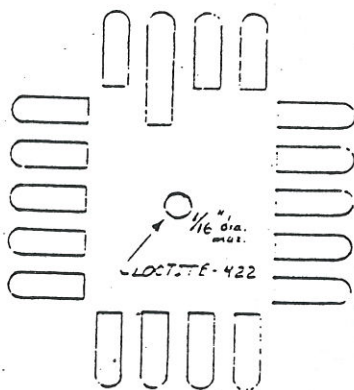

FIG. M-3
STEP 1. AFTER MAKING SURE THAT CHIP PAD AREA IS FREE FROM FLUX AND LOCTITE-422 RESIDUE, USE A SHARP TOOTHPICK AND PLACE A VERY SMALL AMOUNT OF FRESH LOCTITE-422 IN THE CENTER OF THE CHIP PAD AREA. THE SIZE OF THE DROP OF GLUE SHOULD BE NO GREATER THAN 1/16 IN. IN DIAMETER. REFER TO FIGURE M-3.